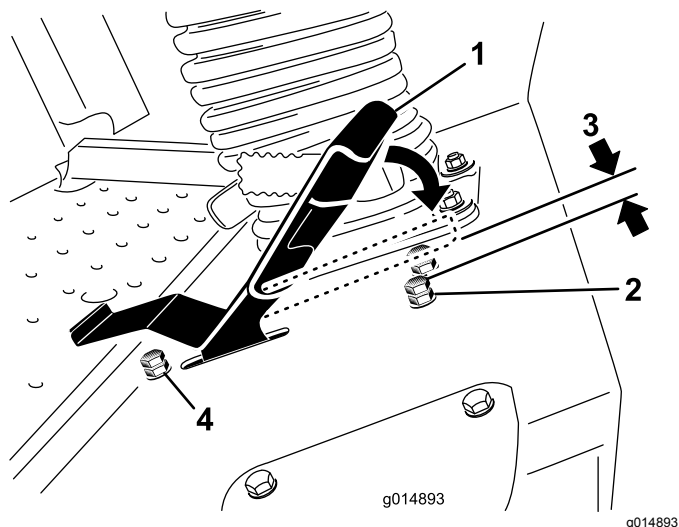

Figure 87
- Loosen the jam nut on the stop bolt for the traction pedal (Figure 87).